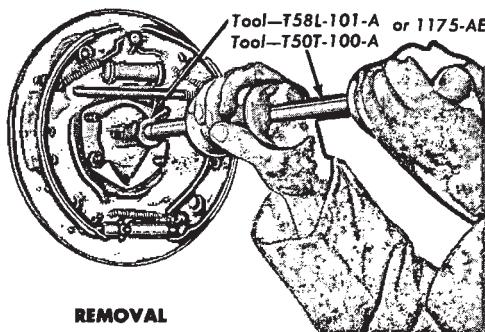

FIG. 9—Removing and Installing Axle Shaft Seal
6. Whenever a rear axle shaft is replaced the oil seal must be replaced. Remove the seal with the tools shown in Fig. 9.
13. Install the new oil seal with the tools shown in Fig. 9. Installation without use of the proper tool will distort the seal and cause leakage.
8. Remove both axle shaft oil seals with the tools shown in Fig. 9.
3. Install new axle shaft oil seals with the tool shown in Fig. 9. Installation without use of the proper tool will distort the seal and cause leakage. Coat the outside edges of the new oil seal with a nonhardening type
shown in Fig. 3. Care must be exercised to prevent damage to the oil seals. Install a nut on one of the brake backing plate attaching bolts to hold the plate to the axle housing after the shaft has been removed. Remove both seals with the tool shown in Fig. 9.